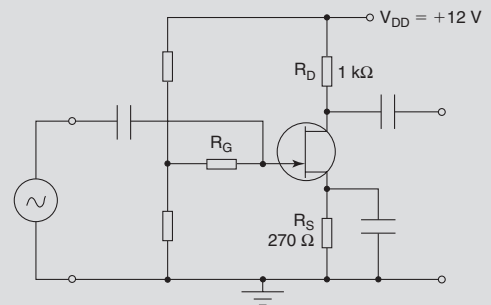
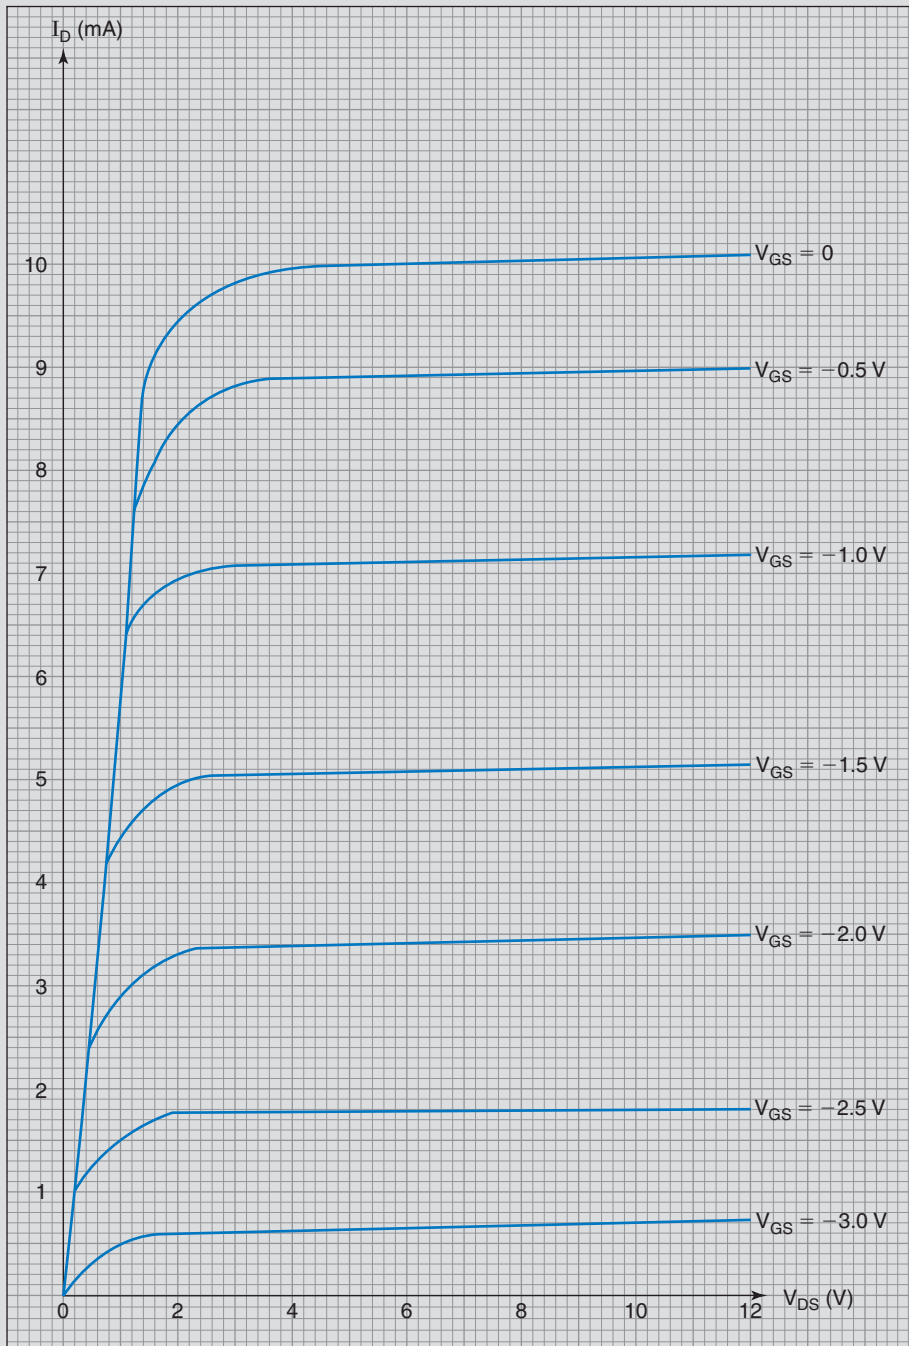

Fig. 30
Fig. 31
- 4 The characteristics for the FET in Fig. 30 are as in Fig. 31. Using these characteristics